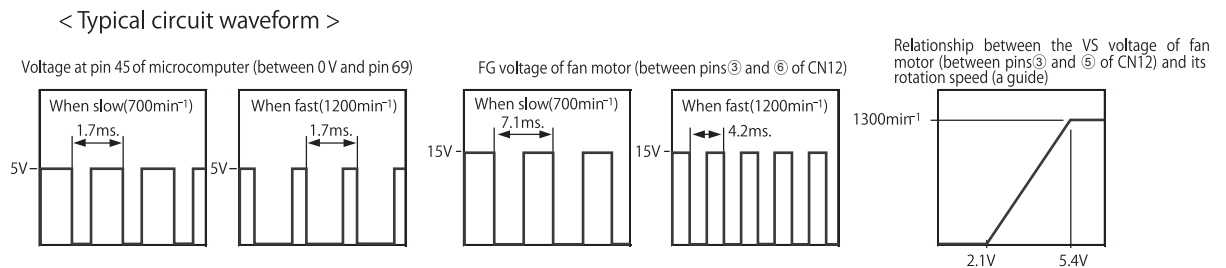

Fig. 2-2
- The indoor fan motor DC Voltage (VDC), Control Circuit Voltage (VCC), and Speed Control Voltage (VS) are supplied from connector CN12. FG is a feedback signal for an indoor fan motor frequency of rotation speed.
- The VS is controlled by the microcomputer (IC1). The VS terminal undergoes an analog voltage that matches the LO pulse signal at pin 69 of the microcomputer (IC1). (See Fig. 2-2.)